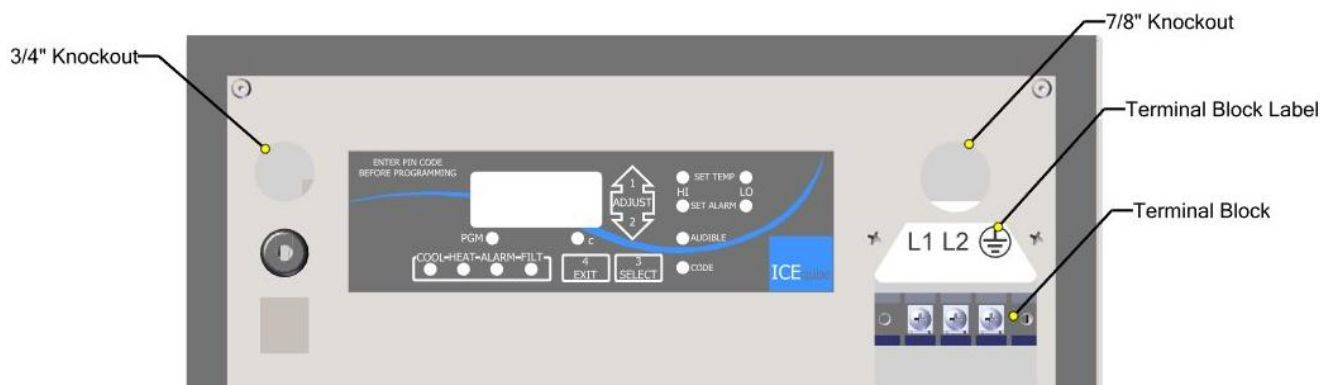

Figure 3: Terminal Block
4. The terminal block will be used for power. (See *Figure 3: Terminal Block*)